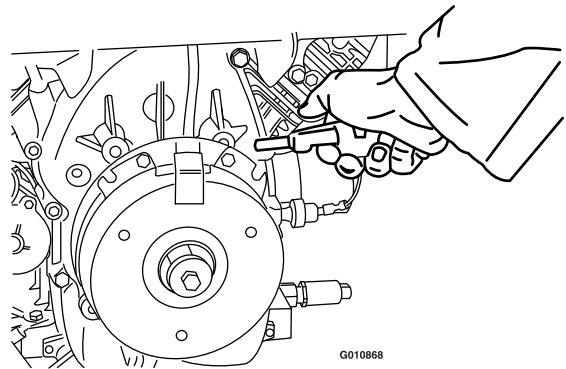

Figure 67
3. Using an air compressor, blow out any debris from under the brake pole and around the brake spacers (Figure 67).